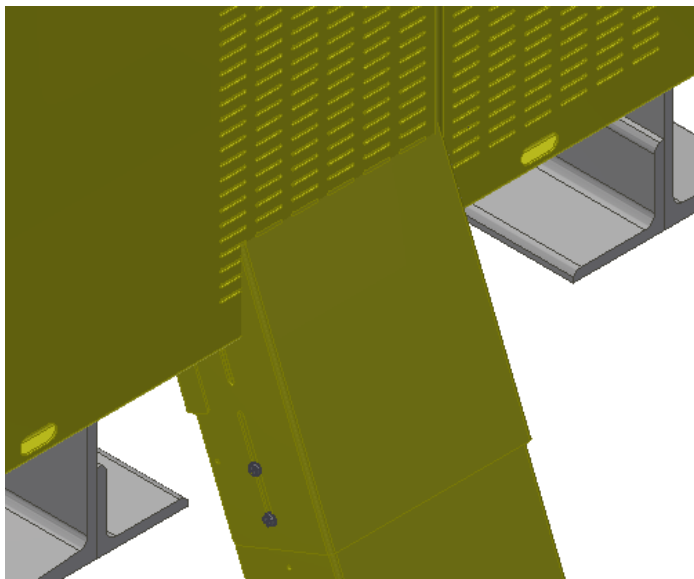
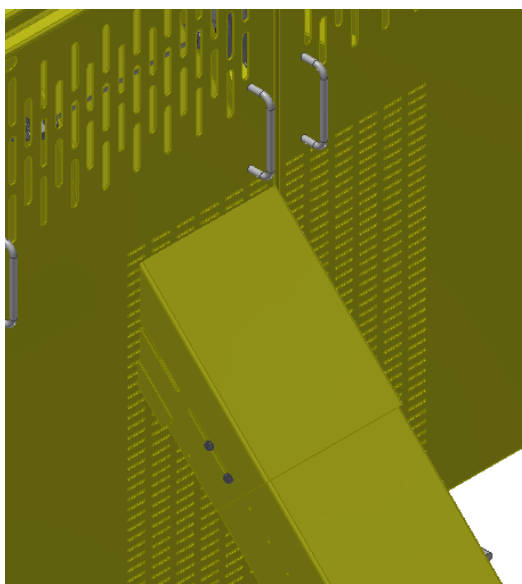

Figure 28: Machine Guard Rope Panel Modification
Figure 29: Machine Guard Rope Panel Modification
- Cut the Machine Guard Rope Panels (p/n's _ _-237 & _ _-238) along the slotted pattern as necessary to clear the ropes and/or rope guards as shown below (Figure 28, Figure 29).